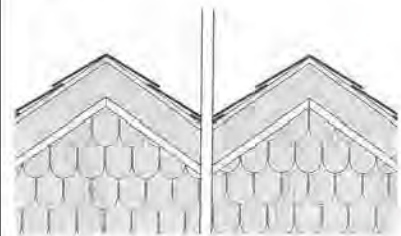

Fig.30
- Carefully check alignment of Round Cuts to center full or partial rounds as needed and cut (see Figure 30).